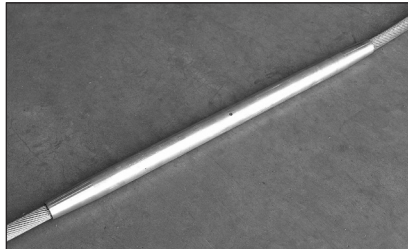

FIGURE 8a: Slide the Aluminum sleeve over the installed Steel sleeve.
8. Slide the aluminum sleeve over the installed steel sleeve, centering between the two marks that were made in **Step 3** (**Figure 8a & 8b**).